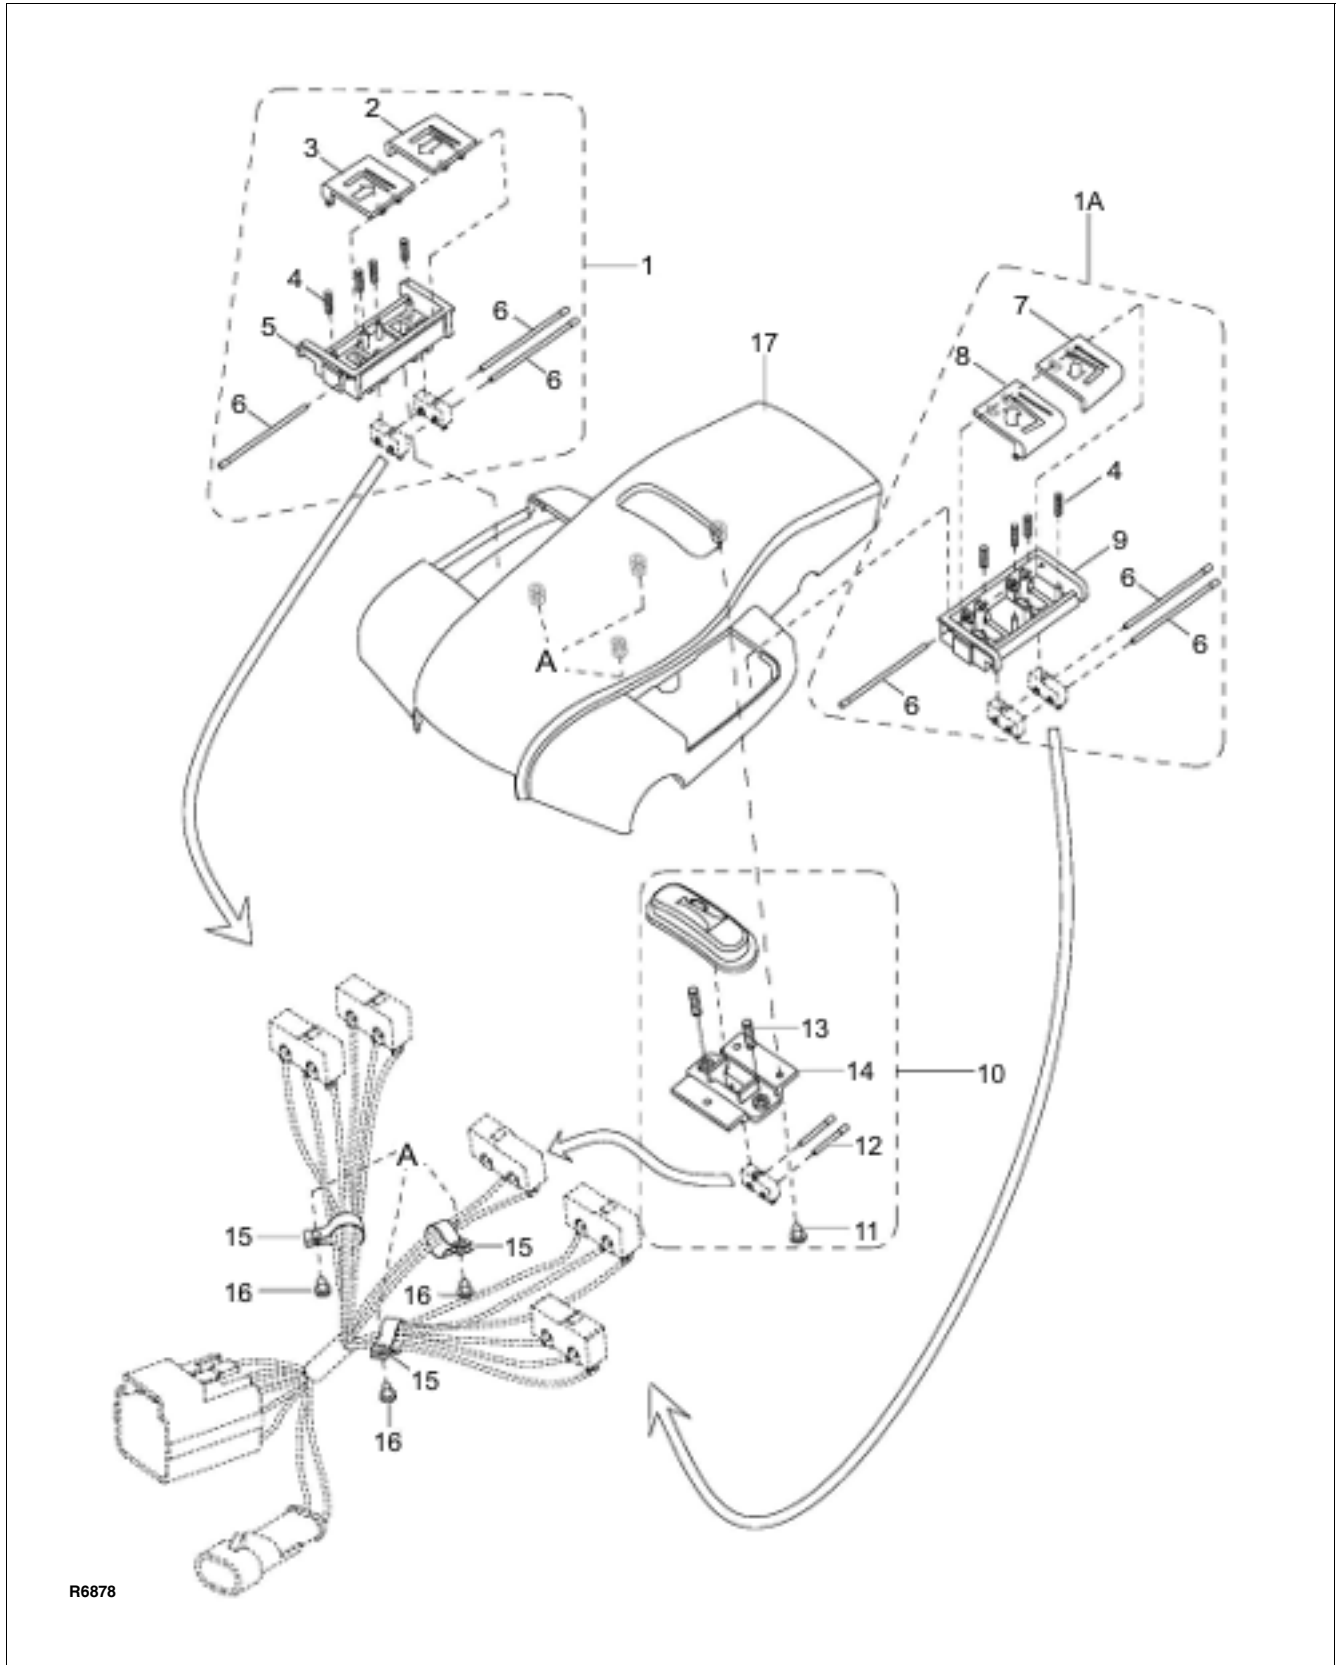

Figure 5-4 Cap Assembly
2. Remove three screws (11, Figure 5-4), bracket (14) and springs (13).
3. Remove two pins (12) and defective switch from bracket (14).
2. Remove switch assembly (1, Figure 5-4) from cap (17).
3. Remove pin (6) securing bracket (5) and remove the bracket.
4. Remove two pins (6), two switches and four springs (4) from bracket (5).
2. Remove switch assembly (1A, Figure 5-4) from cap (17).
3. Remove pin (6) securing bracket (9) and remove the bracket.
4. Remove two pins (6), two switches and four springs (4) from bracket (9).
7. Position the new switches and four springs (4) in bracket (9) and secure with two pins (6).
8. Position switch assembly (1A) in cover (17) and secure with pin (6).